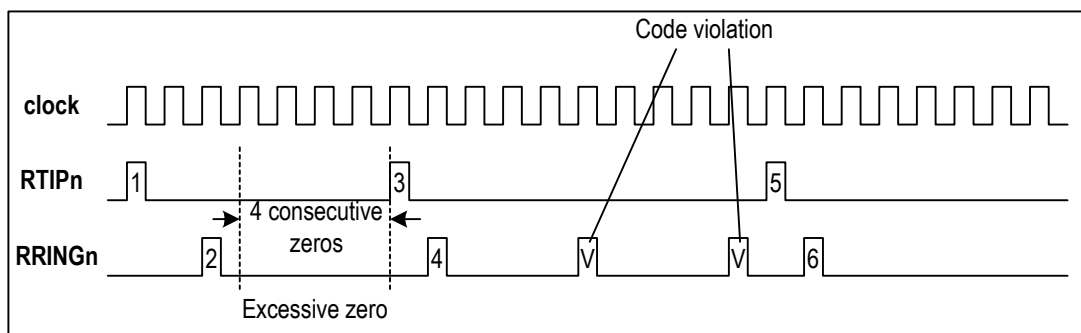

Figure 10. HDB3 Code Violation & Excessive Zero Error
2. HDB3 Code Violation (CV) Error: When HDB3 line code rule is used, a CV error is detected if two consecutive BPV errors are detected, and the pulses that have the same polarity as the previous pulse are not the HDB3 zero substitution pulsed (refer to Figure 10).
| HDB3 | More than 3 consecutive 0s are detected (refer to Figure 10). | More than 3 consecutive 0s are detected (refer to Figure 10). |